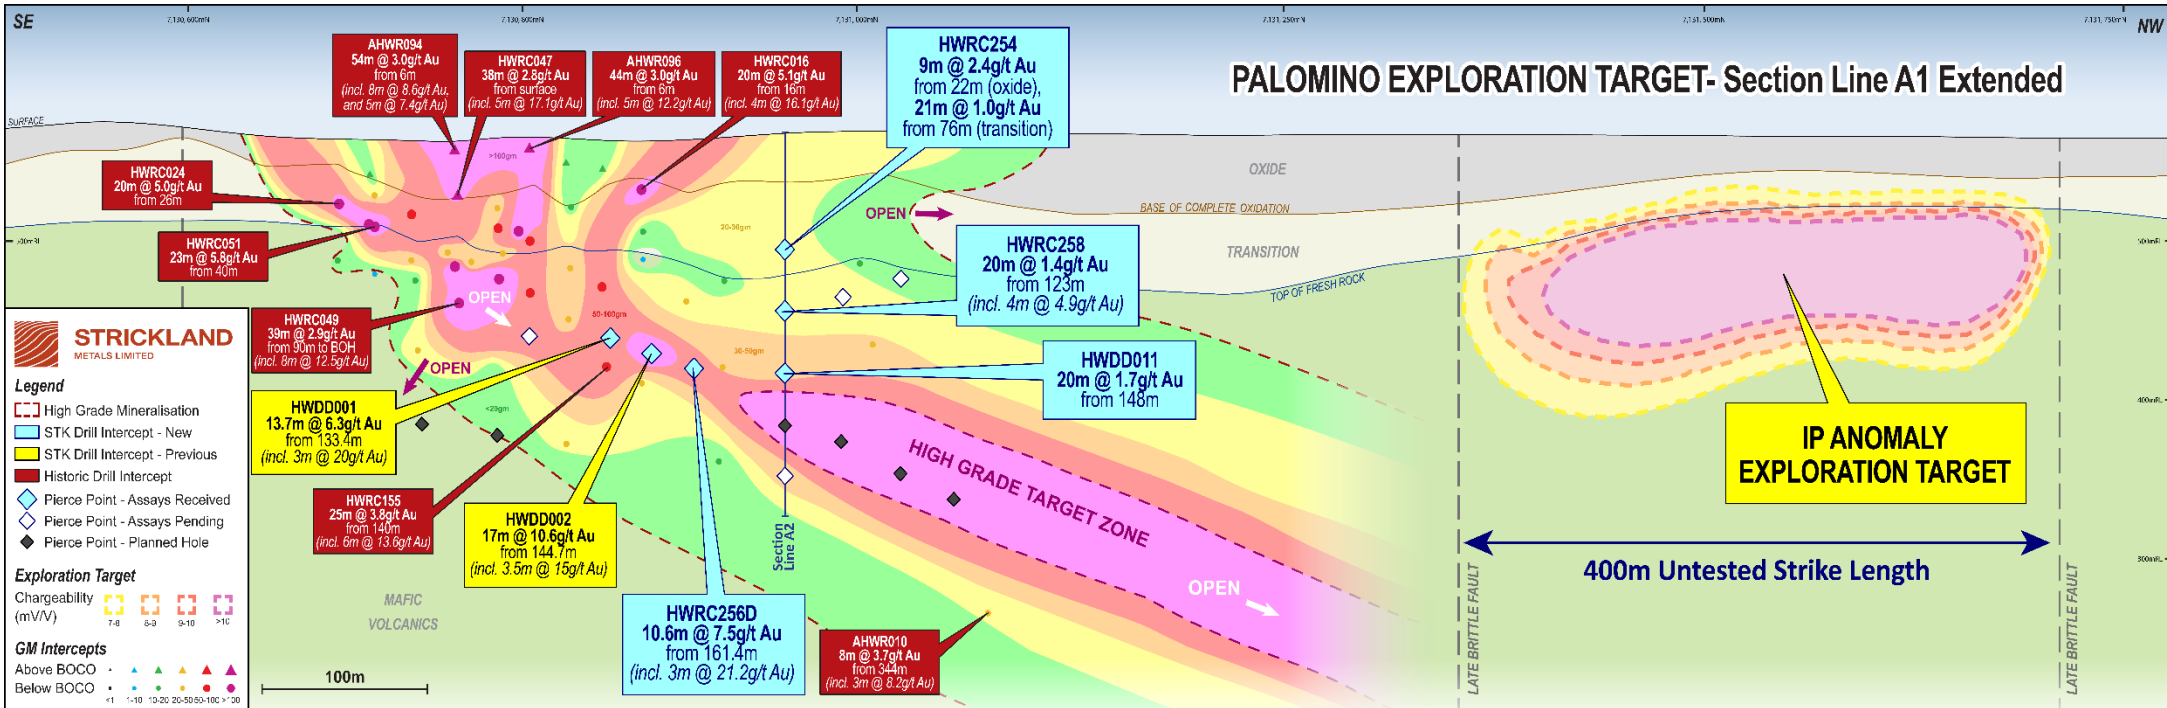

Figure 4: Expanded long section of the Palomino gold mineralisation, as well as the newly identified IP anomaly ~600m north of the current drilling program
- IP Survey highlights an excellent new target 600m to the north-west of Palomino, which has yet to be tested by any historic drilling (see Figure 4)